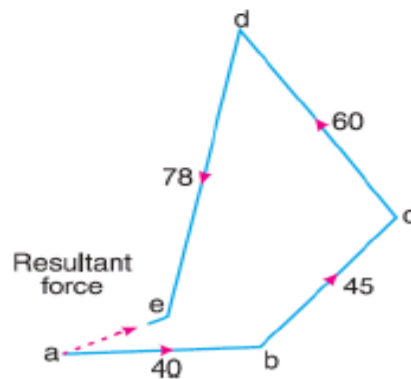

Fig. 1.4 Vector Diagram
- For graphical method draw the vector diagram with the above values, to some suitable scale, as shown in Fig. 1.4. The closing side of the polygon ae represents the resultant force. By measurement, we find that $ae = 23 \text{ kg.m}$.